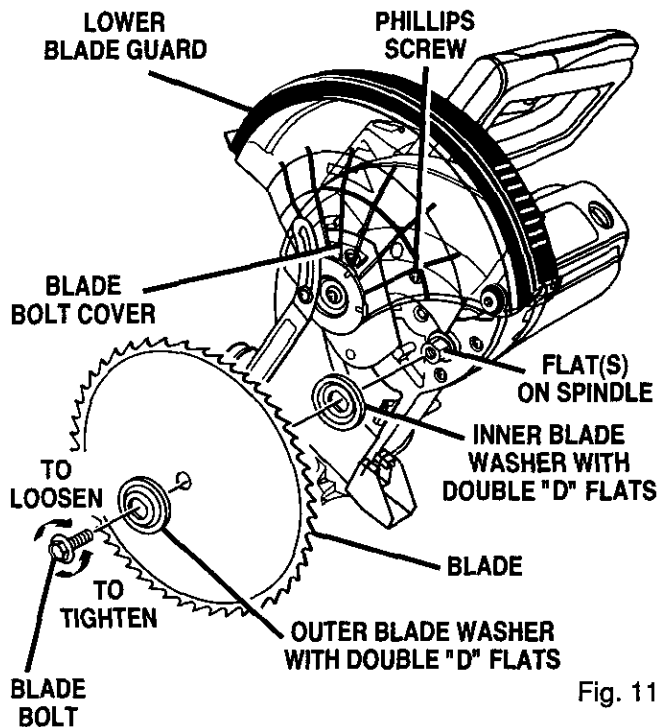

Fig. 11
- Fit saw blade inside lower blade guard and onto the inner blade washer. The blade teeth point downward at the front of saw as shown in figure 11.
- Retighten phillips screw securing blade bolt cover. Tighten screw securely. *See Figure 11.*